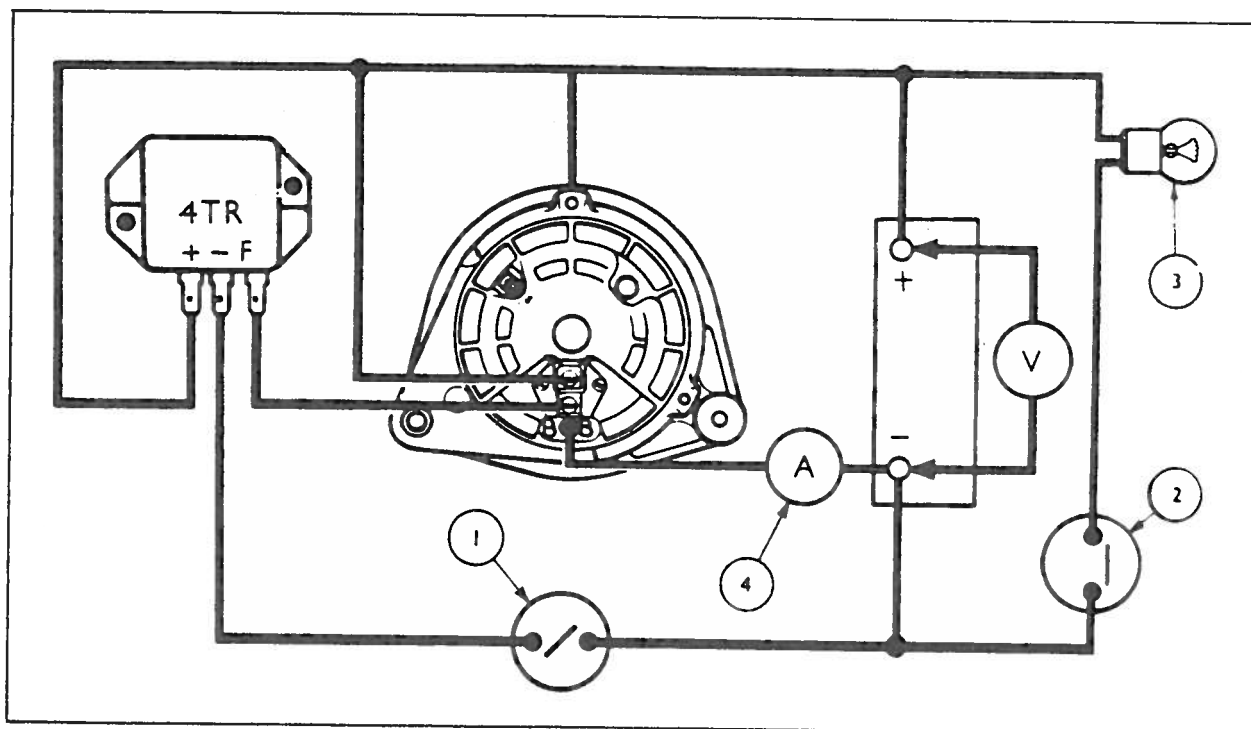

Fig. 25—Control Unit Test Circuit
- Switch on an electrical load of approximately 2 ampere. The test circuit is shown in Fig. 25.